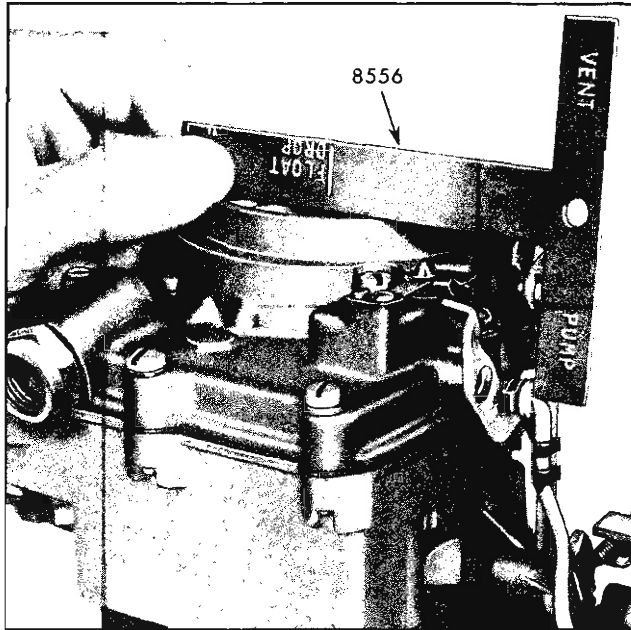

Fig. 6B-85 Pump Link Adjustment
cleaner mounting ring as shown in Fig. 6B-85. Then with throttle valves fully closed the top surface of the pump rod should just touch the end of the gauge. Measurement should be  $1\frac{21}{64}'' \pm \frac{1}{32}''$ . Bend pump link to adjust.
16. Install fast idle link and fast idle cam as an assembly and install fast idle lever on other end of fast idle link. Place fast idle lever on choke shaft with the tang facing outward and toward the pump lever. Install trip lever so that tang of trip lever is under tang of choke lever, and install retaining screw (Fig. 6B-86 and 6B-87).